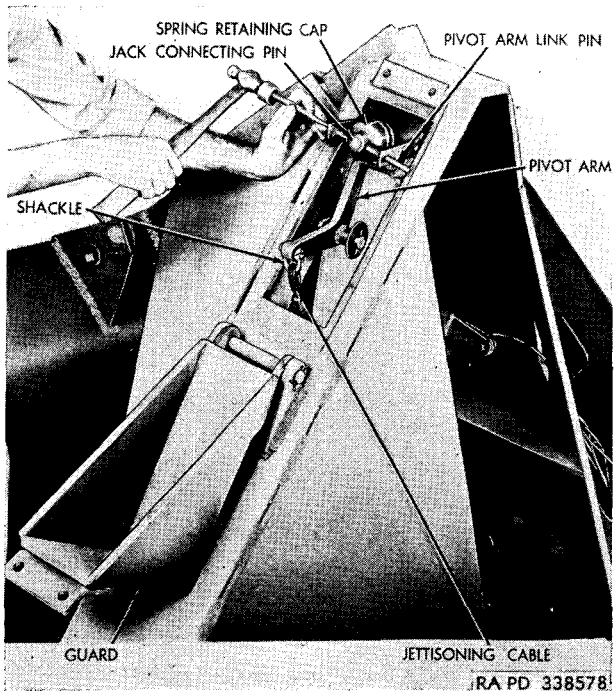
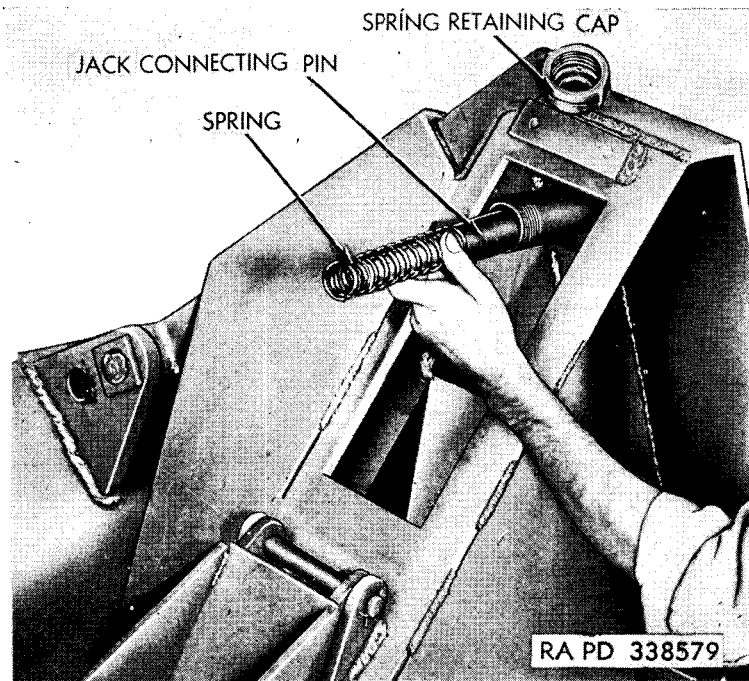

Figure 55. Removing pivot arm link pin.
Figure 56. Removing jack connecting pin and spring.
a. DESCRIPTION. The pivot arm assembly is mounted on a pin welded to the upper left side of tripod bar (fig. 55). The lower end of the pivot arm is connected to the jettisoning cable by a shackle and shackle pin. The upper end of the pivot arm is connected by pin and links to the outside end of the jack connecting pin. When the jettisoning cable is pulled, the lower end of the pivot arm moves downward and through the connecting linkage, pulling the jack connecting pin in the released position.
b. REMOVAL. Remove two 1/2-inch cap screws from the upper edge of the jettisoning arm guard and open the guard. Remove cotter pin and link pin from end of jack connecting pin (fig. 55). Unscrew the spring retaining cap and remove the spring and jack connecting pin (fig. 56).
c. INSTALLATION. Install the jack connecting pin and spring inside the pin housing on tripod and install spring retaining cap on housing (fig. 56). Connect the pivot arm link to the jack connecting pin with a link pin and secure with cotter pins. Close guard and secure with two cap screws (fig. 55).